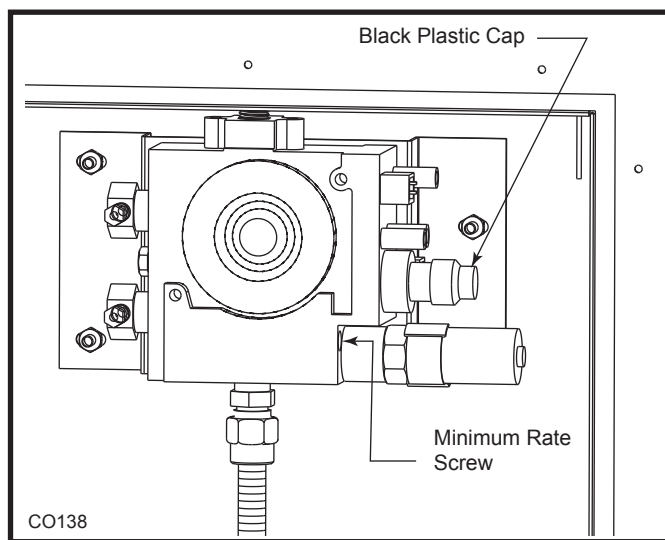
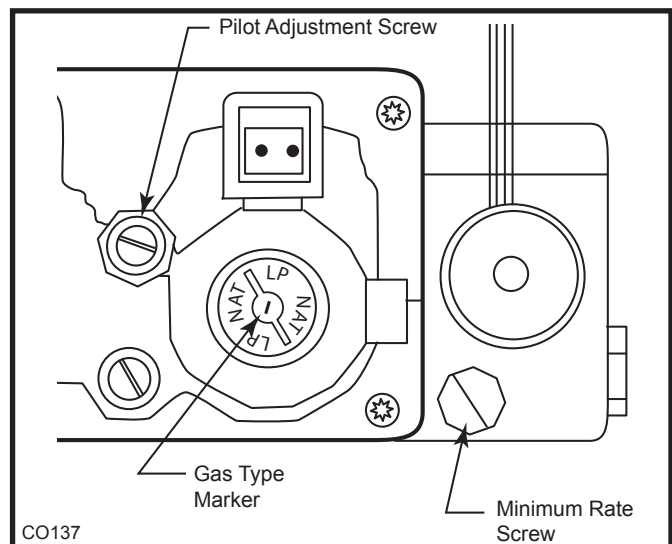

Fig. 58 AF4000 Valve in place.
Fig. 59 Remove black plastic cap and adjust rotary knob to correct gas type. (LP position shown) Replace minimum rate screw with one supplied in conversion kit.
1. Remove two (2) screws holding the pilot assembly to the burner assembly. Move the pilot assembly toward the back wall.
3. Remove four (4) screws holding the burner assembly to the firebox floor.
7. Locate the black plastic cap on the gas valve. (Fig. 58) Remove the black cap by pulling the cap straight off. Note the position of the marker on the top of the rotary knob. This marker will point to NAT or LP. (Fig. 59)
9. Remove the slotted brass minimum rate screw located in the valve next to the motor drive. (Fig. 59)